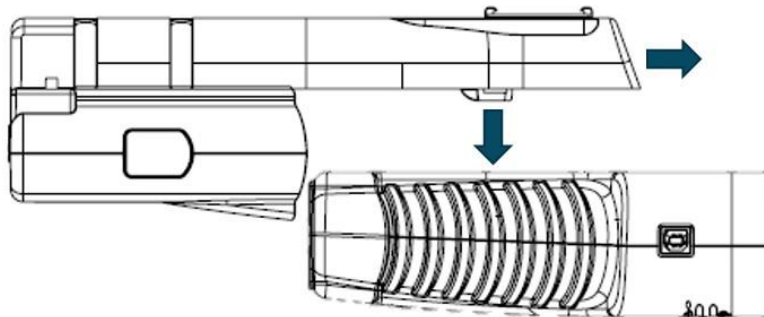

Figure 7-2. Attach the extension module
4. To attach the extension module, place the extension module on top of the analyzer and let the mounting lead settle into place, then push forward until the extension module snaps in place as shown in figures 7-2.